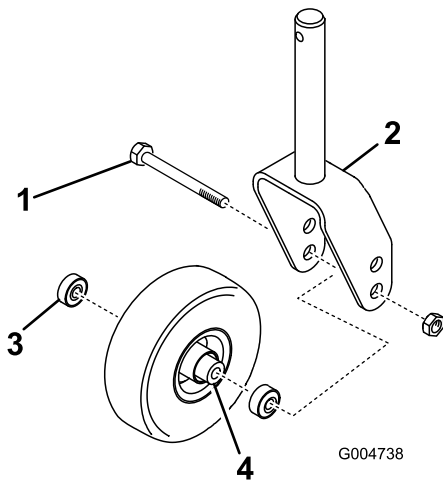
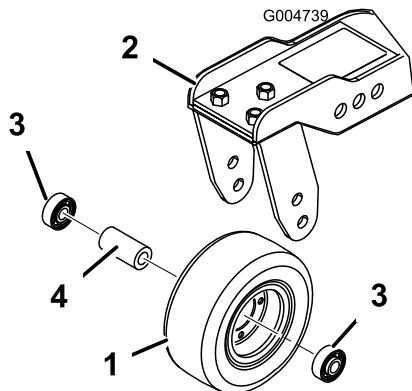

Figure 105
Figure 106
1. Remove the locknut from the bolt holding the castor-wheel assembly between the castor fork (Figure 105) or the castor-pivot arm (Figure 106).
- Remove the bearing from the wheel hub and allow the bearing spacer to fall out (Figure 105 and Figure 106).